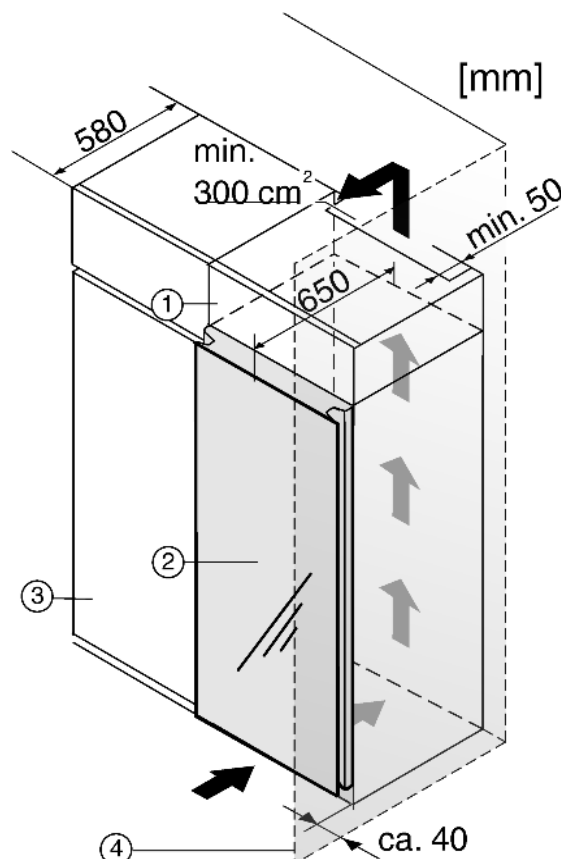

Fig. 12
- (1) Stack cabinet
- (2) Appliance
- (3) Kitchen cabinet
- (4) Wall
When inserting the appliance into a row of kitchen units (max. depth 580 mm), the appliance can be installed directly next to the kitchen unit Fig. 12 (3). The appliance door projects 70 mm relative to the front of the kitchen units. It can be opened and closed perfectly as a result.
If the appliance is installed with the hinges next to a wall Fig. 12 (4), the distance between appliance and wall has to be at least 40 mm.